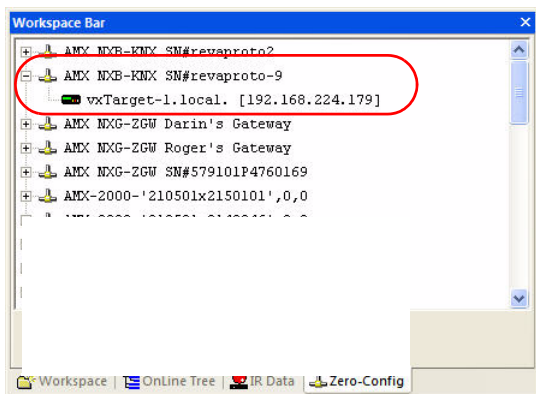

FIG. 7 Workspace Bar - Zero-Config tab
2. Select **Refresh List** to generate an initial listing of all Zero-Config devices detected (FIG. 7).
3. Click the plus symbol (+) to expand any device in the Zero-Config list. The device's current IP Address is listed below the device name (FIG. 7):